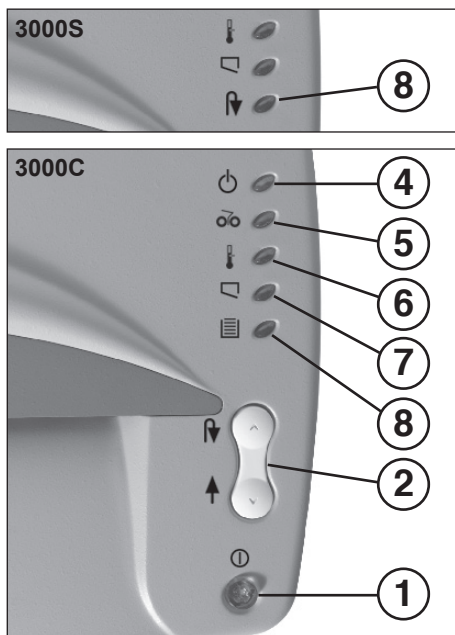

fig. 1
- 1 = Pushbutton switch „ready“ (fig. 1)**
- 2 = Rocker switch (fig. 1) (forward / reverse)**
- 4 = Pilot lamp „ready“ (fig. 1)**
- 5 = Pilot lamp “material jam“ (fig. 1)**
- 6 = Pilot lamp “motor overload“ (fig. 1)**
- 7 = Pilot lamp (fig. 1) „receptacle missing“**
- 8 = Pilot lamp „receptacle full“ / „reverse“ (fig. 1)**
- Switch on the machine at the pushbutton switch (1) (fig. 1). The pilot lamp (4) (fig. 1) lights up.
Note: when shredding transparencies, the machine should be switched manually to the forward running position (rocker switch (1) (fig. 1) to position “↑”).
When the receptacle is full, the machine switches off. The pilot lamp (8) (fig. 1) lights up.
- Remove the receptacle from in front of the machine and empty its contents. Pilot lamp lights up (7) (fig. 1).